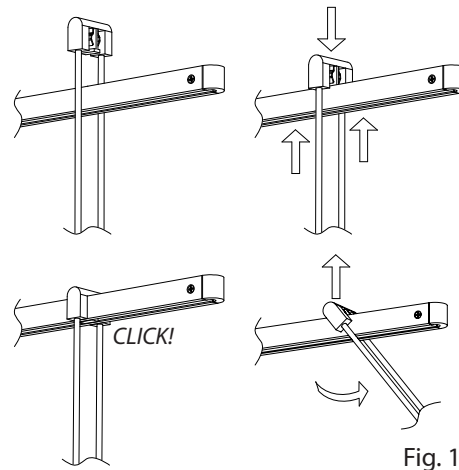

Fig. 1
Connecting a Luminaire Hanger to a Power Bar (Fig. 1):
1. Screw the Trim Ring into the Cylinder Light Engine. (Fig. 1)